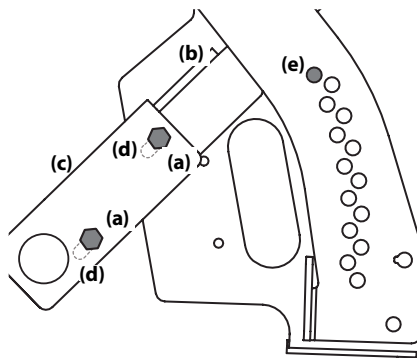

Figure 4-14
1. Loosen -- but do not remove -- the two hex screws (a) and flange lock nuts (a) that secure the handle (b) to right lift arm (c). See Figure 4-14. The handle has two slotted holes (d) to allow for the adjustment.